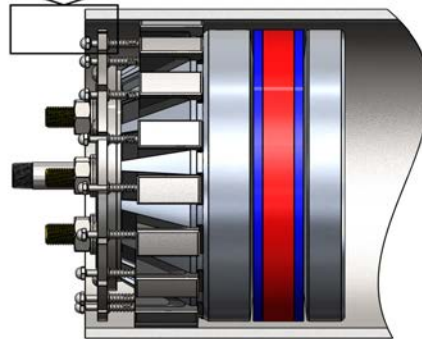

Figure 7: Sizes 10" and above GripSafe ST Plug and Pipe Concentricity
- For NPS 10" plugs and above, the max clearance between the plug's outer diameter and pipe's inner diameter is .500". Use any type of measuring device to measure the clearance or use the Concentricity Gauge (sold separately) to measure the gap (see Figure 7 below). Repositioning the plug is required if the gap is greater than .500". If the gap is less than .500", then the plug is within the concentricity criteria; proceed to the next step. To help with plug's concentricity, see **Note 6.7**.